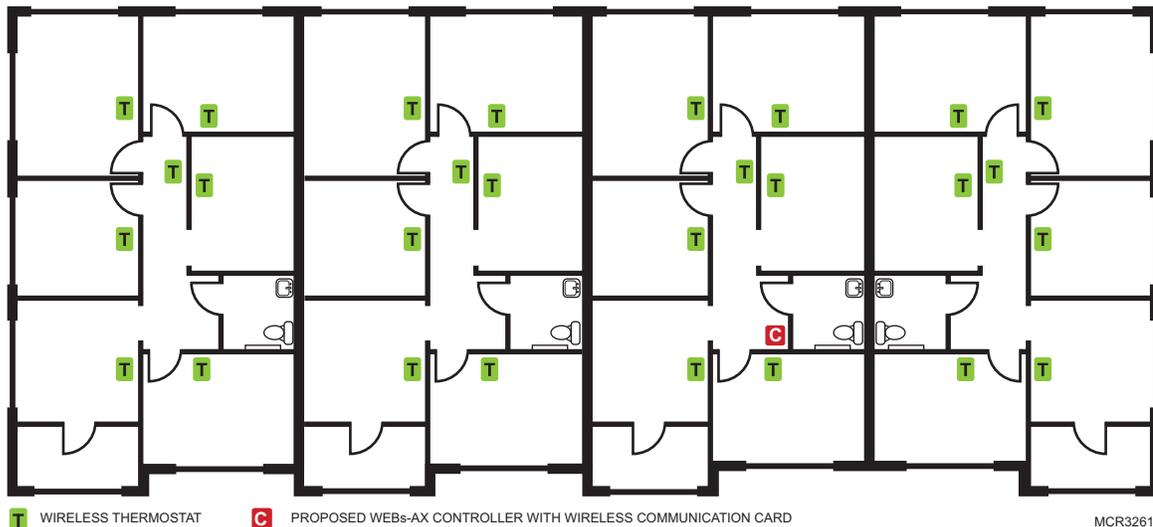
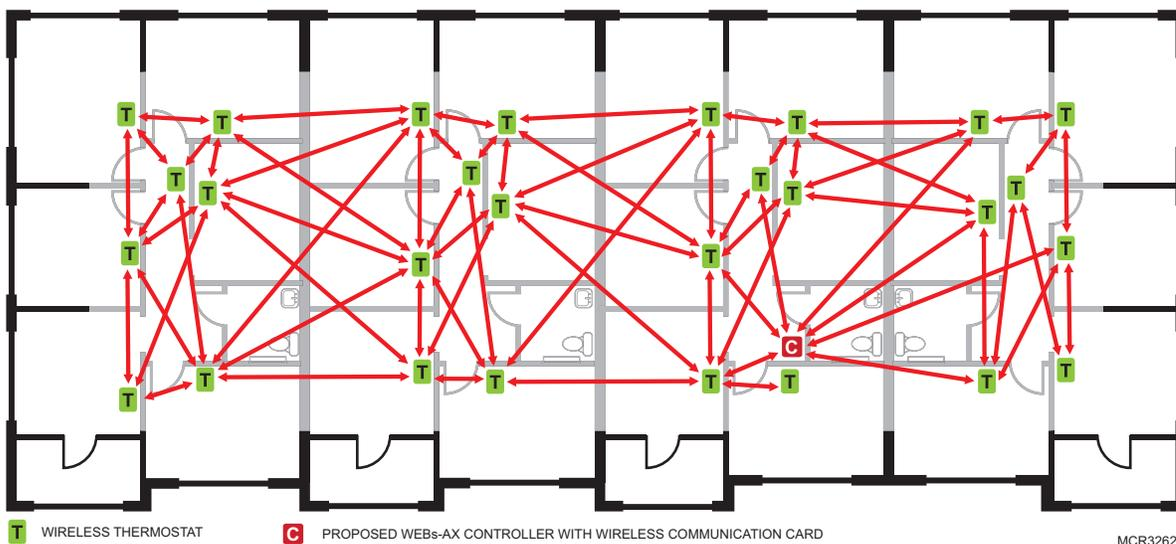

Fig. 4. Floor plan with proposed thermostats to be installed.
Fig. 5. A fully deployed wireless network will outperform the point-to-point wireless survey.
- Ensure that at least one thermostat is within 50 feet (15 M) of the controller with wireless card for every cluster of 10 thermostats installed. WEB-2xx controllers have a recommended max of 30 wireless thermostats per controller. If 30 thermostats are installed, three thermostats should be installed within 50 feet of the controller with wireless card. WEB-6xx and WEB-7xx controllers have a recommended max of 50 wireless thermostats per controller. If 50 thermostats are installed, five thermostats should be within 50 feet of the controller with wireless card. (Fig. 4 and Fig. 5)
If available, it is best to have a floor plan layout showing the location of all the proposed thermostats to be installed (Fig. 4).
It is important to understand that the survey values recorded are provided as a worst case scenario of a point to point application. Once the whole network is deployed with a WEBS-AX controller and wireless communication card and all wireless thermostats are present and functioning as routers, the ability of the network to efficiently route wireless signals cannot be compared to this simple survey analysis method (Fig. 5). Thus, it is important to remember that the displayed percent signal ONLY represents the signal strength from point A to point B. As other devices join the network mesh, the route taken from device A to device B will most likely change.
1. Create a site drawing of proposed locations for all wireless devices like the floor plan shown in Fig. 4.